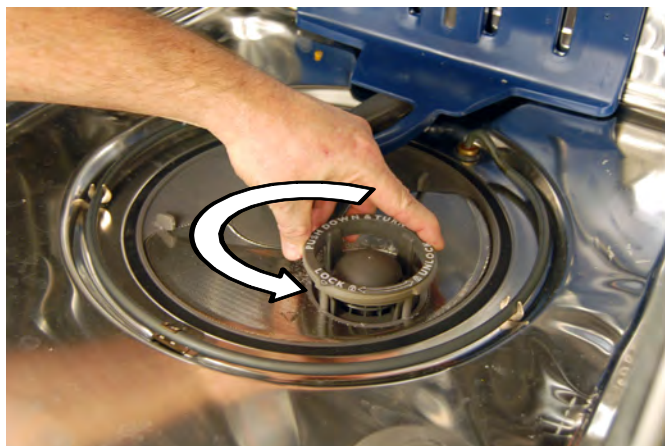

Figure 1
1. Upper Filter-Push down and turn filter 1/4 turn counterclockwise and lift out, see figures 1 and 2.